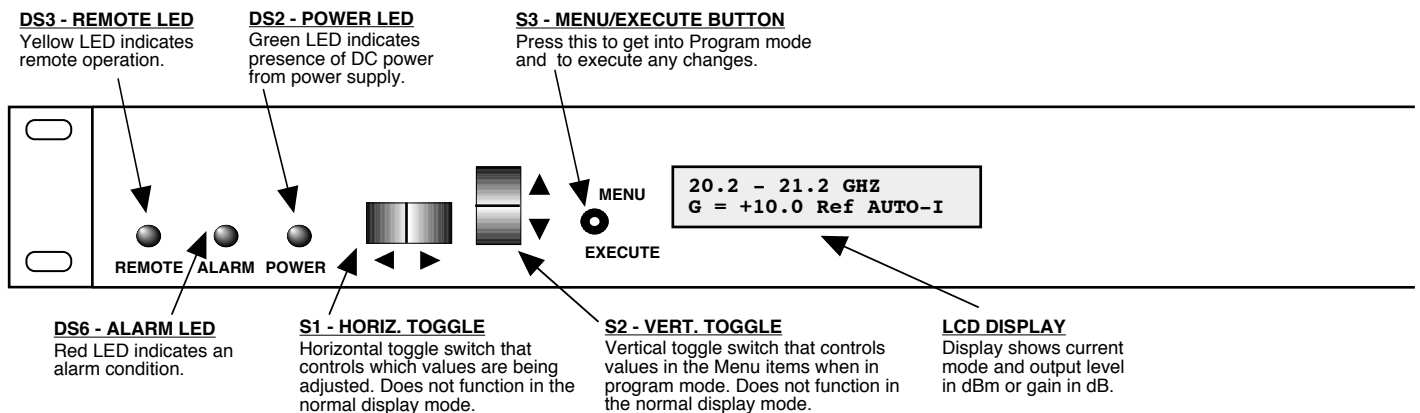

FIGURE 2.2 3116-202 Front Panel Controls and Indicators
6. Be sure DS2 (green, DC Power) is on and DS6 (red, Alarm) is off (Figure 2.2).
Alarm indications appear on the LEDs (see Figure 2.2).